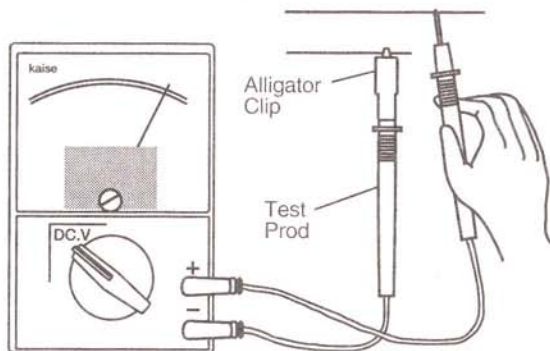

fig. 5
6. Read the voltage on the Meter. Refer to the figure 5.